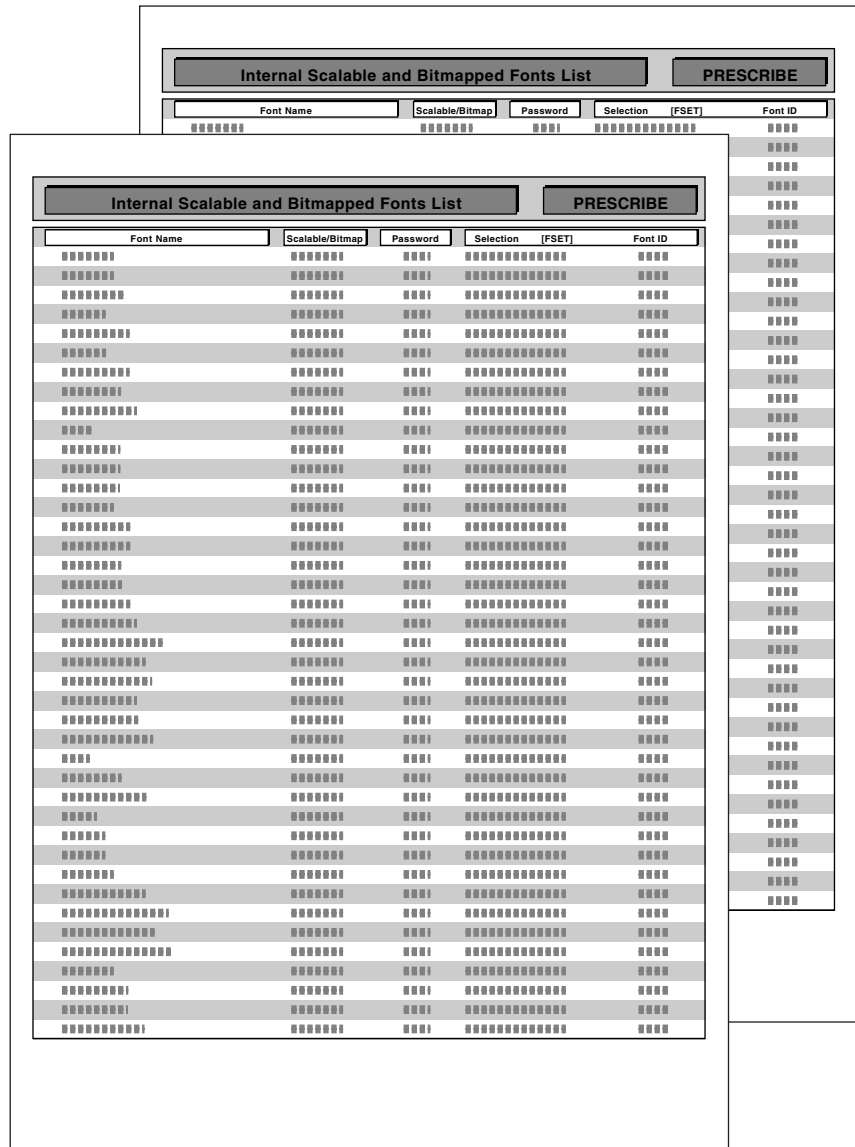

Figure 3-8
To help you decide in selecting a font, you can printout lists of the internal fonts or the optional fonts including downloaded fonts. Samples for font lists are shown in *Figure 3-8 on page 3-51*.
**6** Press the **ENTER** key again. Processing appears, then Ready. The printer prints out a list of fonts with a sample and font ID (number) for each of them. Sample lists of fonts are shown in *Figure 3-8* on the next page.